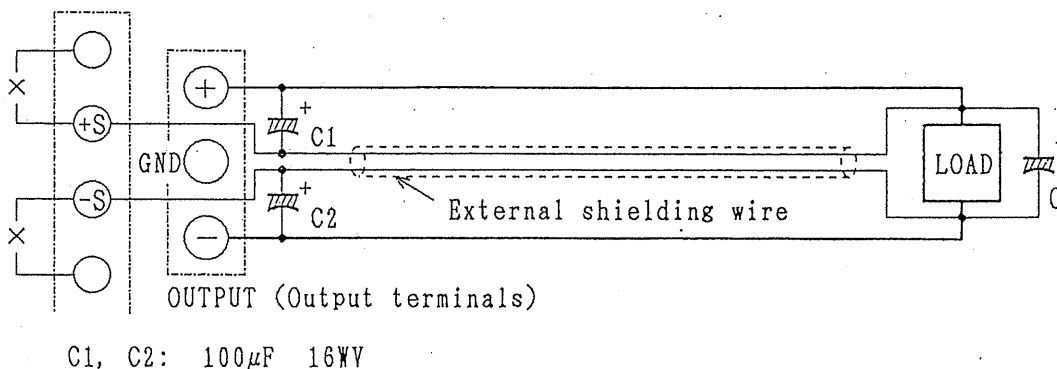

Figure 4-1
2. If the load connection cable is longer than 3 - 5 meters, phase shift caused by inductance and capacitance of the cable wires becomes noticeable and the circuit may oscillate. In such a case, connect capacitors C1 and C2 and connect an electrolytic capacitor of several hundred microfarads in parallel with the load as shown in Figure 4-1.